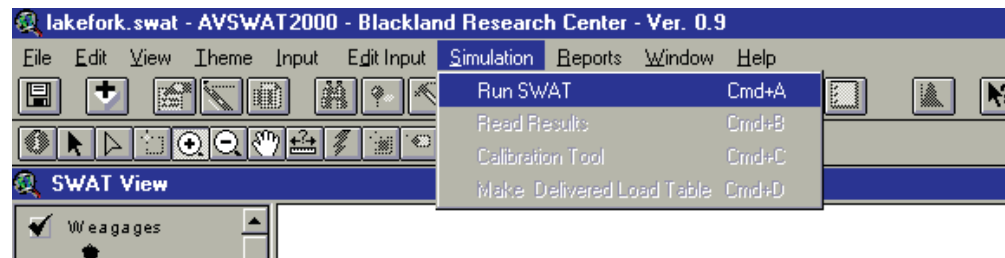

Figure 15.41
1. On the **Simulation** menu, click **Run SWAT** (Figure 15.41).